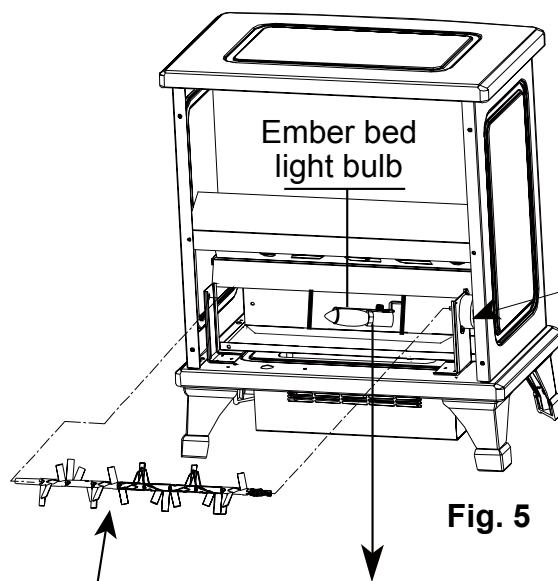

Fig. 5
4. Pinch the spring clip to loosen the spindle, and gently turn and pull the rubber gromet out of the spinner motor shaft. (see Fig.5).
5. Pull the spinner out of the bracket.(see Fig 5).